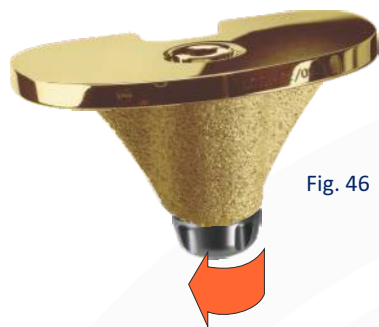

Fig. 46
- ✓ The GKS PRIME FLEX Tibial components can be equipped with Tibial Extensions to improve the stability whenever desired. To eventually assemble the extension, unlock and remove the distal plug of the keel using the **Screwdriver (S50112)** supplied and replace it with the Extension, tightening it using the wrench available on the other end of the instrument (**Fig. 46**).